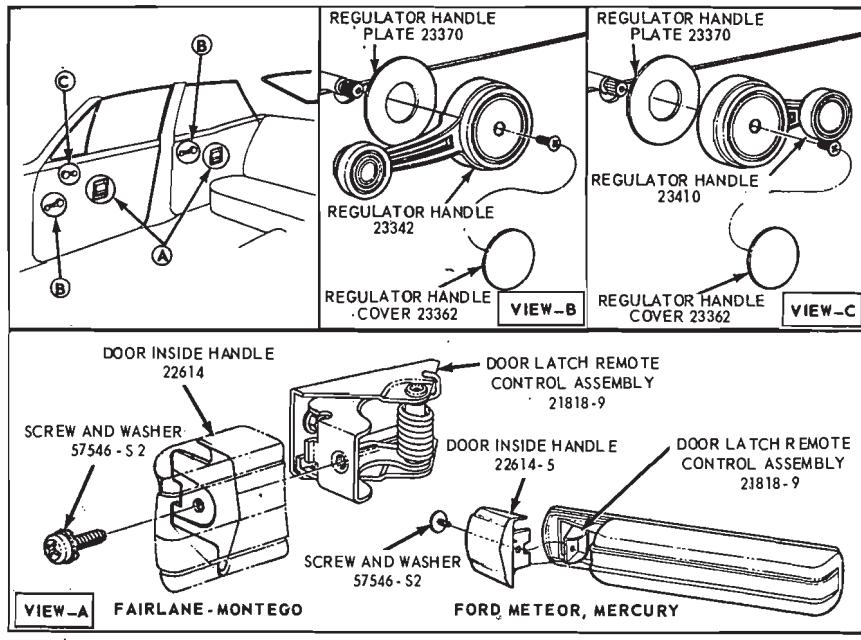

FIG. 1—Typical Door and Window Regulator Handle Installation
- Pry the window regulator retaining screw access covers from the window regulator handles (Fig. 1). Remove the handle retaining screw and the handle.
handles on their shafts. Install the handle retaining screws and press the retaining screw access covers into place. With the windows closed, the handles should be positioned as shown in Fig. 1.
1. Remove the retaining screw from the window regulator handle and remove the handle from the shaft (Fig. 1).
2. Remove the window regulator handle retaining screw access cover. Remove the handle retaining screw and the handle (Fig. 1).